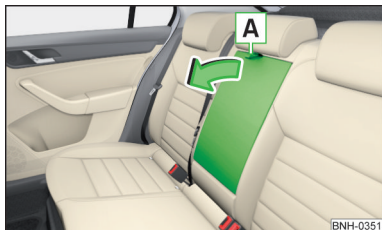

Fig. 57
- Pull on the loop **A** and fold the armrest forward in the direction of the arrow » Fig. 57.